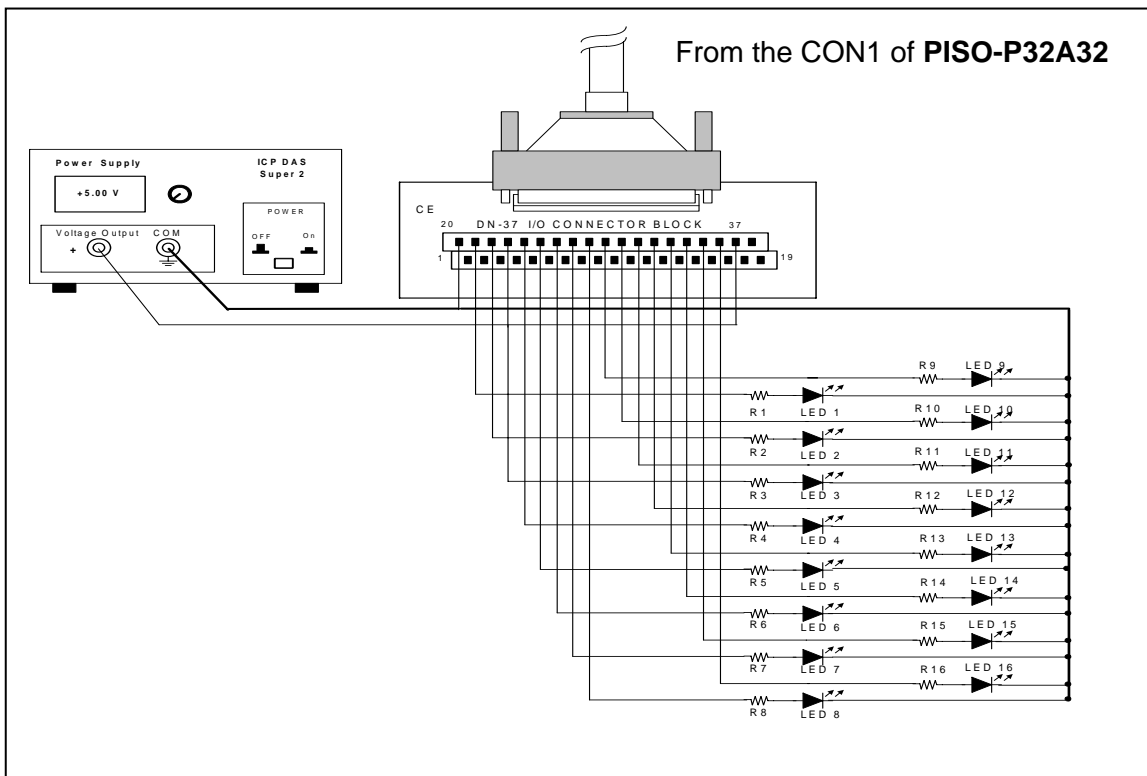

Figure 4-1-3. The circuit diagram of external device 1 for the digital outputs of **PISO-P32A32**
- Figure 4-1-3(PISO-P32A32) shows the circuit diagram of external device 1